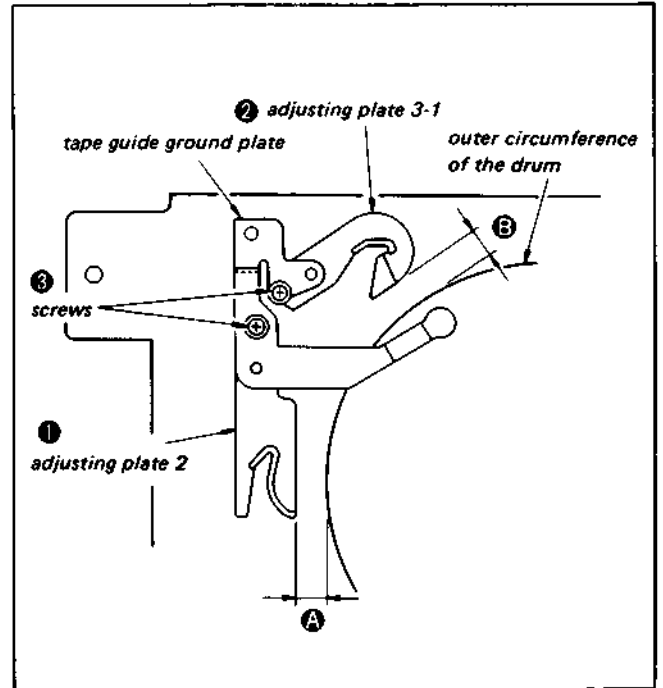

Fig. 3-5. Measurement of the position of adjusting plates 2 and 3-1
- 3) Remove the screws shown in Fig. 3-5, then remove the tape guide ground plate and adjusting plates 2 and 3-1.
Proceeding in the same manner as in replacement of the drum assembly, measure the width of the gap between the upper drum and the adjusting plates (Fig. 3-5).